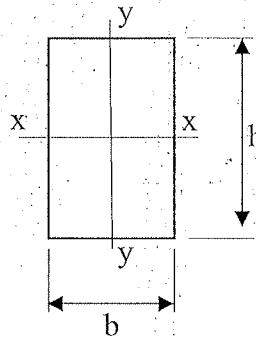

Fig.Q2-b
- b. Derive expressions for **section modulus** about X axis (Z_{xx}) and Y axis (Z_{yy}) for the rectangular cross-sectioned (Fig.Q2-b) beam. [4 marks]